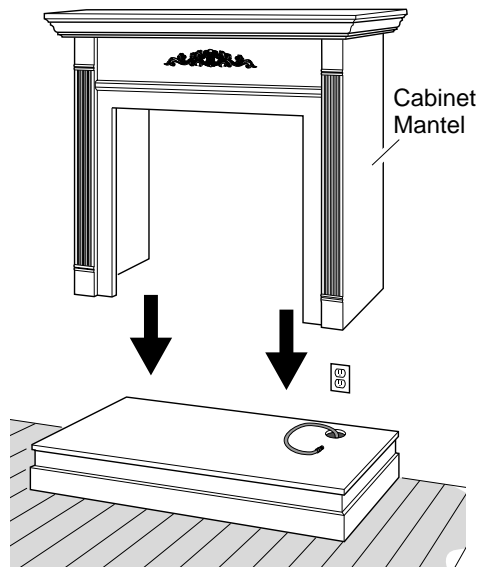

Figure 29 - Installing Cabinet Mantel
6. Center cabinet mantel on hearth base (see Figure 29). Make sure mantel is flush against wall.